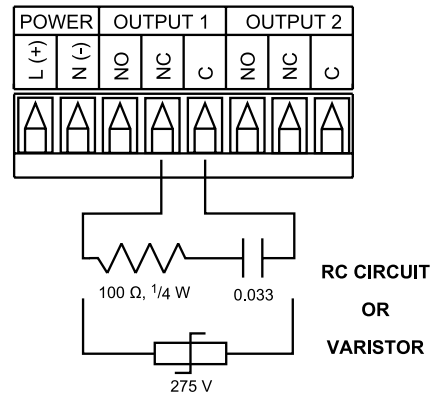

Figure 2.13 Snubber Circuits Wiring Hookup
If you have an inductive load connected between Common (C) and Normally Closed (NC) contacts of the mechanical relays and you want to protect them from the rush current during the switching period, you have to connect an external snubber circuit between Common (C) and Normally Closed (NC) contacts as indicated in Figure 2.13.